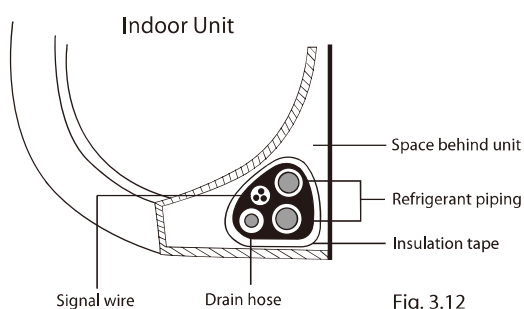

Fig. 3.12
1. Bundle the drain hose, refrigerant pipes, and signal cable according to Fig. 3.12 .
3. Using insulation tape, wrap the signal wire, refrigerant pipes, and drain hose tightly together. Double-check that all items are bundled in accordance with Fig. 3.12 .